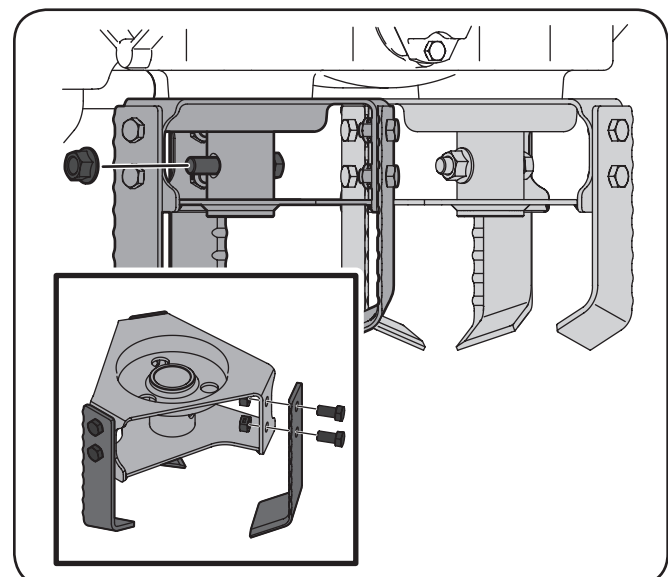

Figure 7-6
3. To remove a tine assembly, simply remove the hex screw and flange lock nut as seen in Figure 7-6. Remove the hex screw and slide the assembly off the tine shaft.
5. Install the tine assemblies on the proper tine shaft using the hex screw and flange lock nut as seen in Figure 7-6.